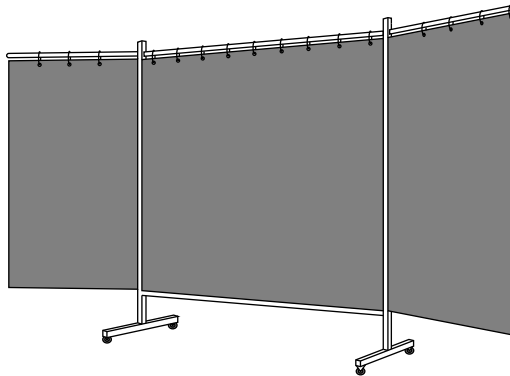

Figure 4-8:
- ✓ **Portable welding curtain:** These items (see Figure 4-8) are usually made of vinyl, and they can help to shield bystanders from the dangerous rays created while welding. Cost: \$10.